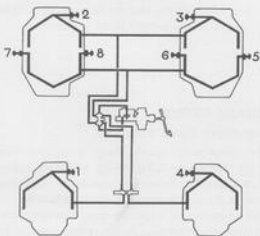

Fig. 5-59. Bleeding sequence
4. Bleeding should take place in the order shown in Fig. 5-59.
4. Bleeding should be carried out in the order shown in Fig. 5-59 and as follows: